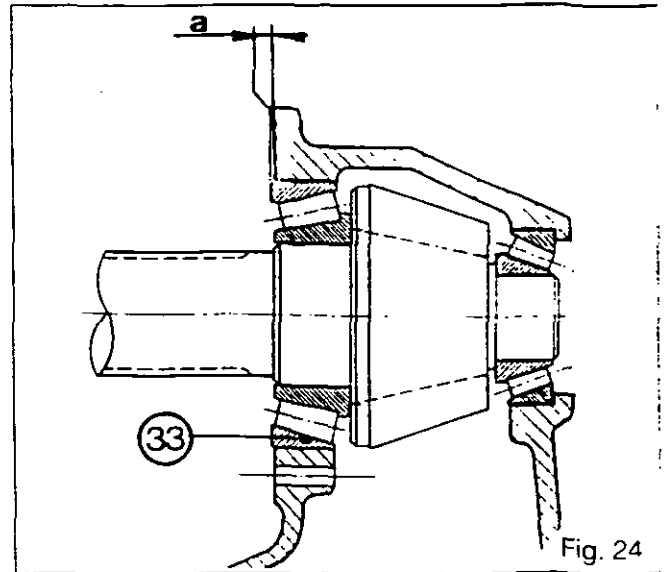
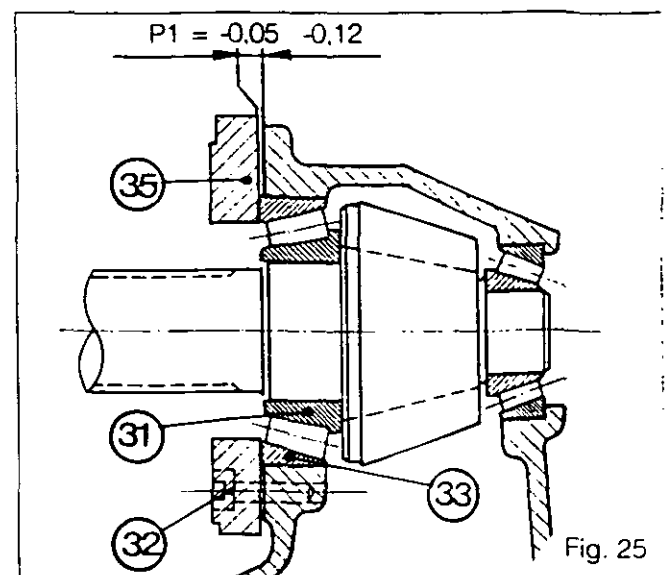

Fig. 24
Fig. 25
76. Smear the periphery of the cup (37) with Loctite 603 and push it against the shoulder in the housing using a suitable tool.
77. Fit the pinion with bearing cones and cup (33).
78. To determine correct shim thickness, add shims to a greater thickness than "a", i.e. protrusion of cup (33) from housing face (Fig. 24) in order to provide some end float.
79. Screw two guide studs in opposite positions into the housing. Fit the shims [36] of the thickness determined in operation 78 and the supporting plate (35).
80. Fit the screws (32), remove the guide studs and tighten to a torque of 90 - 120 Nm.
81. Now calculate the shims required to obtain P1 (Fig. 25) as follows.